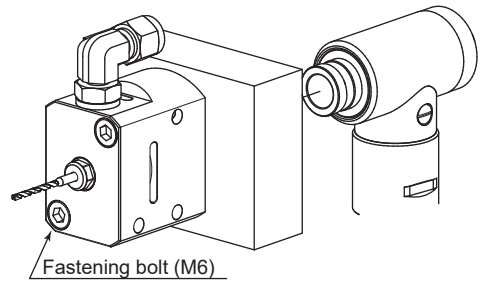

Fig. 23
- (1) Insert the spindle body housing (diameter  $\phi 26$  mm) section into the fixed base of the machine tool.
- (2) Secure the spindle through the mounting holes (2 locations) using the fastening bolts (M6). (Fig. 23)